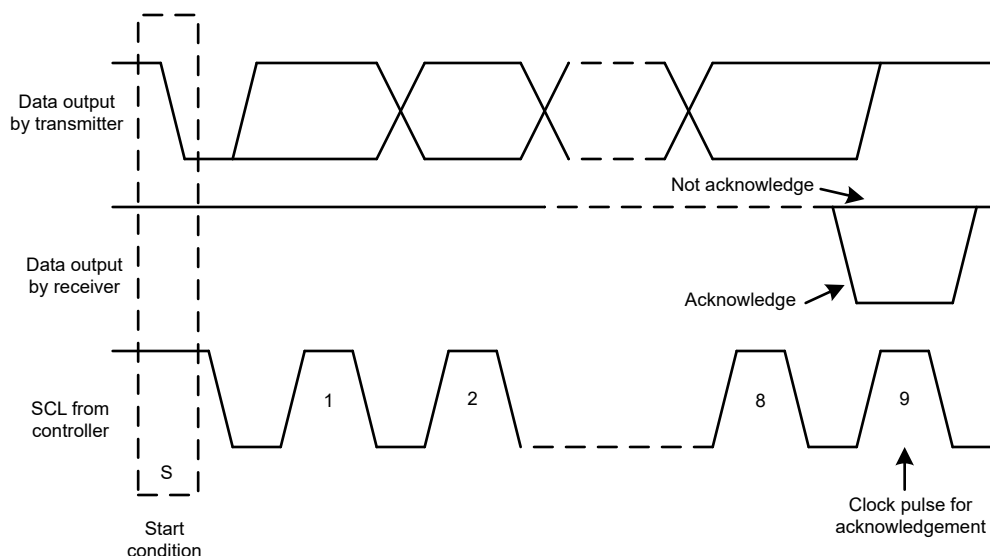
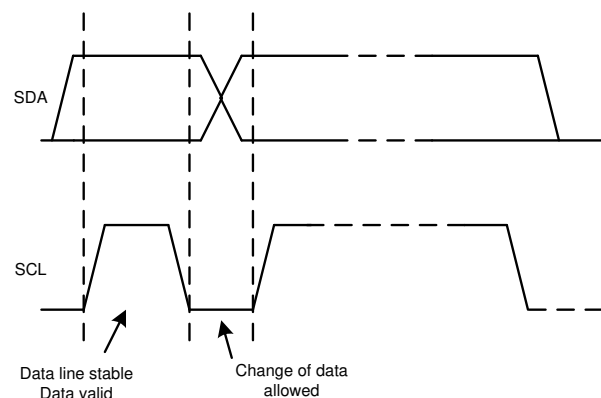

Figure 6-23. Acknowledge and Not Acknowledge on the I²C Bus
Figure 6-25. Bit Transfer on the I²C Bus
Other than specific timing signals, the I²C interface works with serial bytes. At the end of each byte, a ninth clock cycle generates and detects an acknowledge signal. An acknowledge is when the SDA line is pulled low during the high period of the ninth clock cycle. A not-acknowledge is when the SDA line is left high during the high period of the ninth clock cycle, as shown in Figure 6-23.
2. The controller then generates the SCL pulses, and transmits the 7-bit address and the read/write direction bit (R/\bar{W}) on the SDA line. During all transmissions, the controller makes sure that data are valid. A valid data condition requires the SDA line to be stable during the entire high period of the clock pulse, as shown in Figure 6-25. All devices recognize the address sent by the controller and compare the address to the respective internal fixed address. Only the target device with a matching address generates an acknowledge by pulling the SDA line low during the entire high period of the 9th SCL cycle, as shown in Figure 6-23. When the controller detects this acknowledge, the communication link with a target has been established.